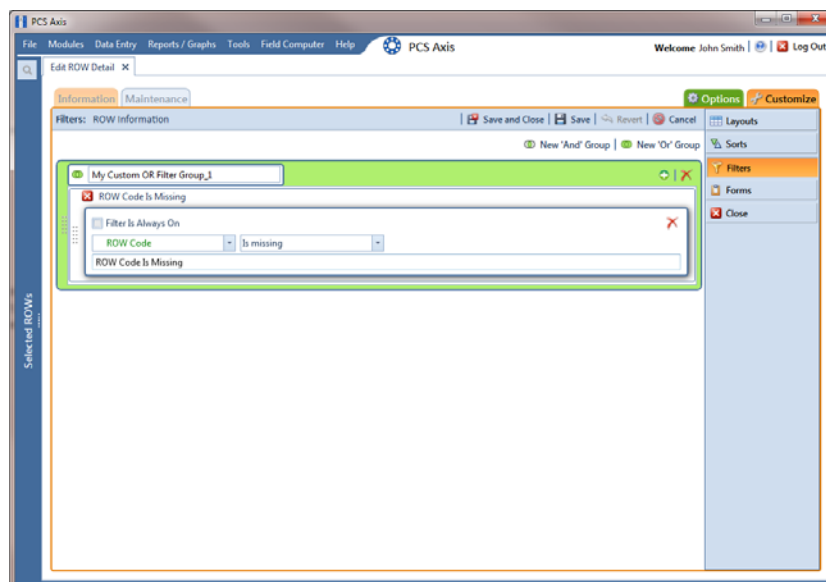

Figure 3-31. Filters
- 4 Click the **Customize** tab  then the **Filters** button  to open the *Filters* page (Figure 3-31).
- 6 Type a name for the filter group in the field **Include records that match any of these conditions** (Figure 3-31, page 118).